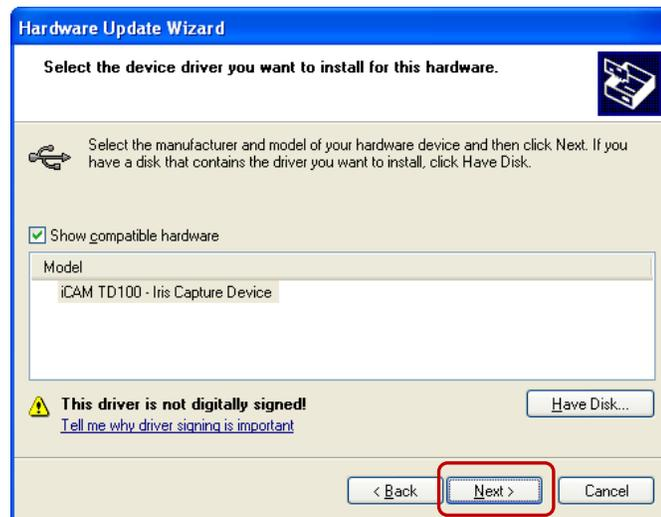

Fig. 25
19. Select **Next** (as shown in Figure 25).